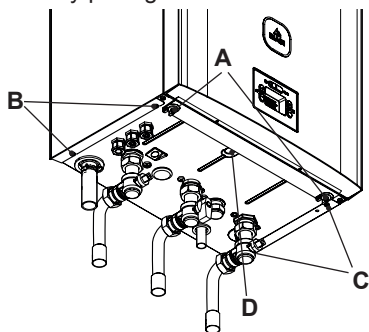
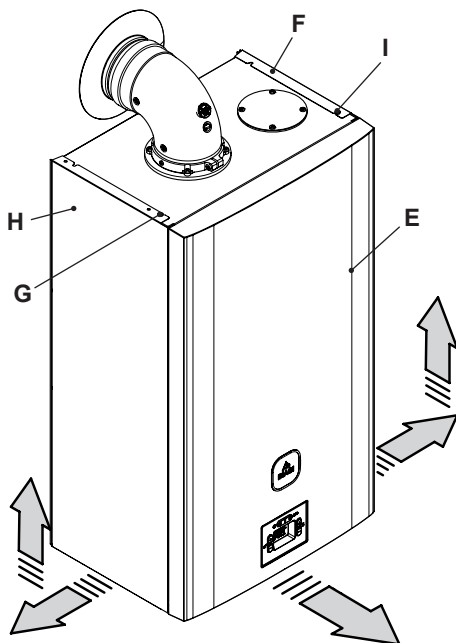

Fig. 10.4
Fig. 10.5
- Unscrew screws "A" and remove the front panel "E" by pulling it and pushing it towards the top so that it is freed from the top housings (Fig. 10.4 and Fig. 10.5).
Loosen screws "B - G" and "C - I" in Fig. 10.4 and remove the two side panels "F" and "H" by pulling towards the outside.
Remove screws "D" (Fig. 10.4) and turn the controls panel "J", as shown in figure Fig. 10.6, to access in an optimal manner the components inside the boiler.